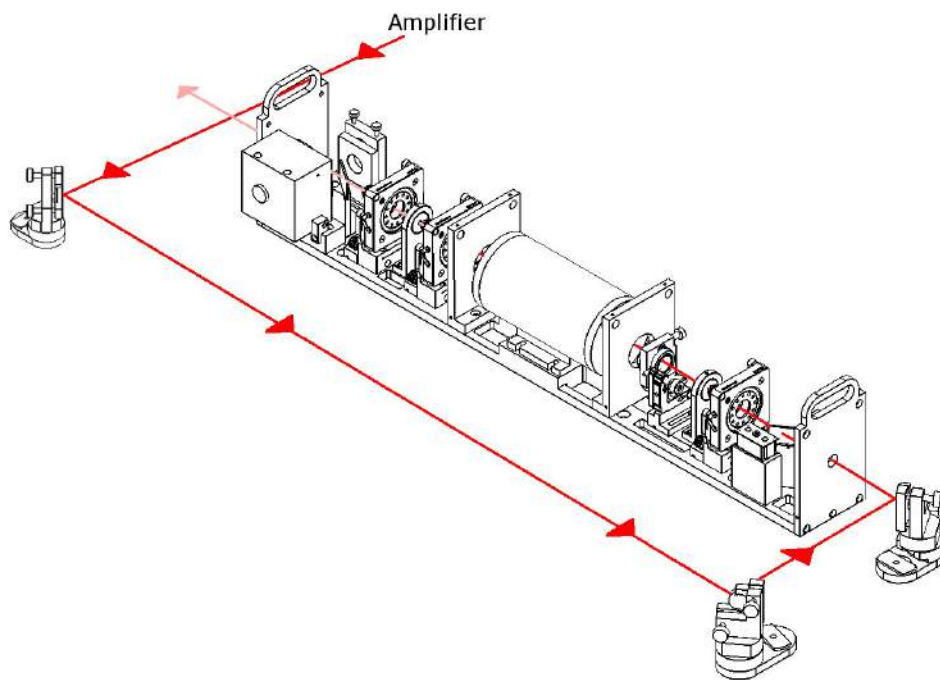

Figure 10.3: Beam path of the MOPA for alignment of the high power isolator
The isolator can stand up to 500 W and an isolation of more than 40 dB has been demonstrated. To achieve these values the complete isolator has to be aligned in reverse. We recommend to align the isolator with the amplifier beam, which propagates reverse to the operational direction. Thus, setup the beam path as shown in figure 10.3. It might be necessary to use one or more lenses on the beam path to get a reasonably collimated beam. Also, p-polarization is required for this procedure, so
- Close the iris aperture and use the mirror set M1 and M2 behind the high power isolator to align the beam, such that the outer region of the beam is concentric with the pinhole itself (figure 10.3). It may be necessary to unscrew and move the mirror mounts M1 and M2, so that the beam is centered on both mirrors.